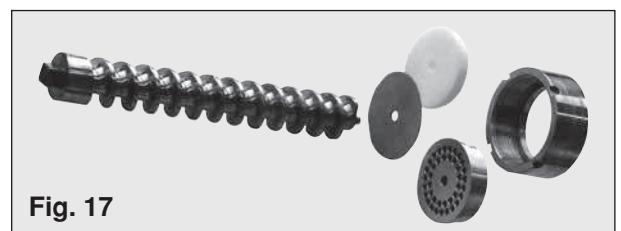

Fig. 17
- disassemble and wash the movable parts (Fig. 17 - 18) and clean the machine (see Unit 6 CLEANING page 45);